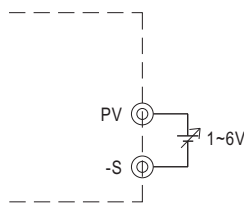

Fig. 3.1 Add on 1~6V external voltage
- (1) Connecting an external DC source between PV and-S on CN1 or CN2 that is shown in Fig. 3.1.